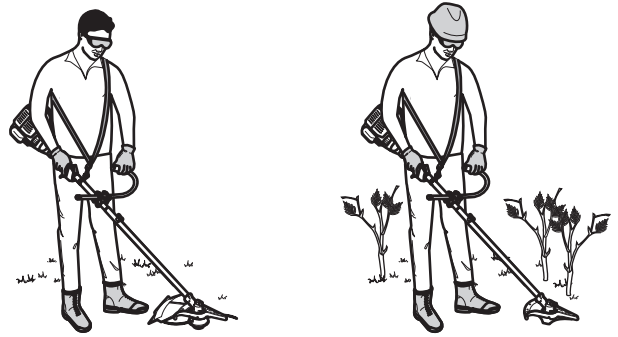

Fig. 22
- Stand in the operating position (Fig. 22). Stand up straight. Do not bend over.